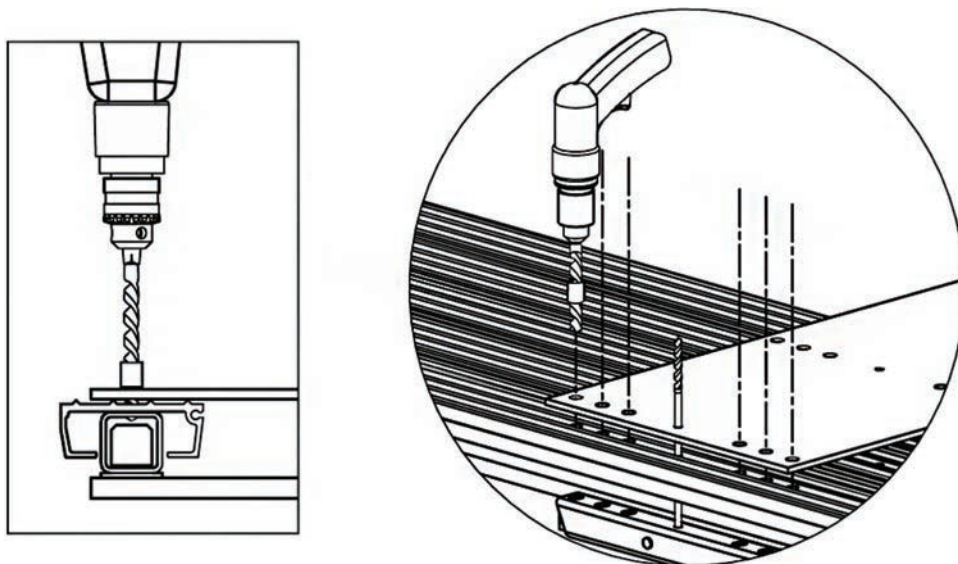

Figure 31
- d) Drill each of the 1/2" [13 mm] holes, being careful to drill only through the slat/plank and not into the nut bars that sit at the bottom of each shoe. Note: One method of achieving the correct drill depth is to measure the thickness of the jig-slat/plank combination and mark the 1/2" [13 mm] drill bit with tape before beginning. (Figure 31).